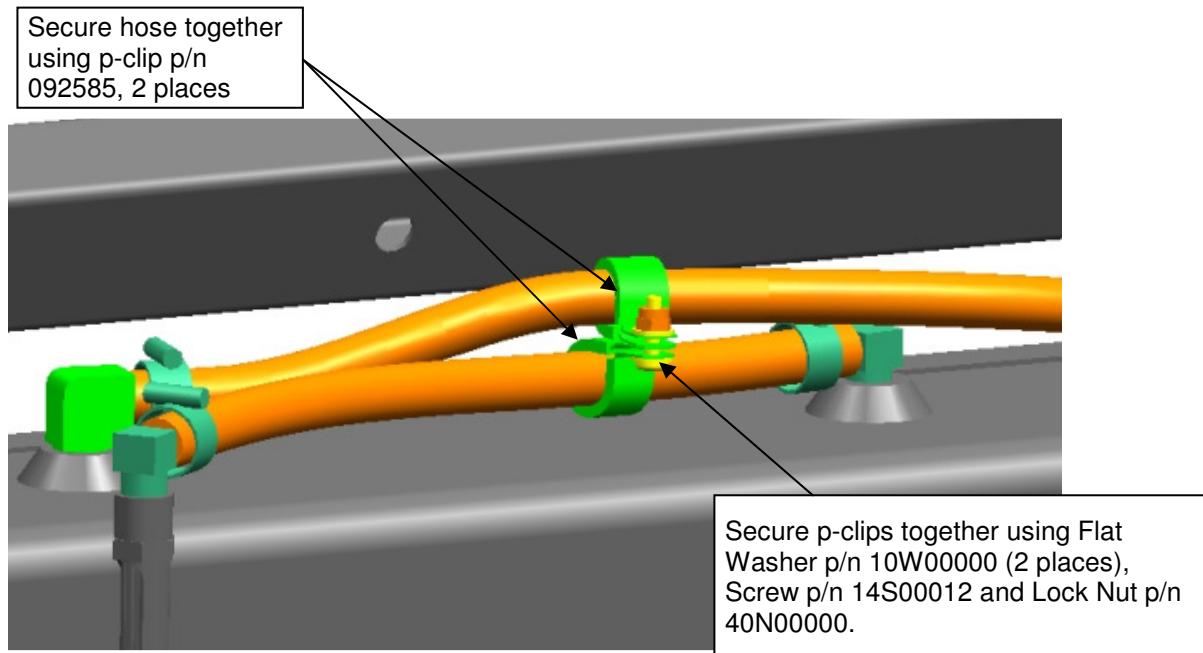

Figure 7: P-Clip Hoses Together To Secure
15. Secure the new hoses together using p-clip (NF p/n 092585, 2 places), Flat Washer (NF p/n 10W00000, 2 places), Screw (NF p/n 14S00012) and Lock Nut (NF p/n 40N00000). See Figure 7.